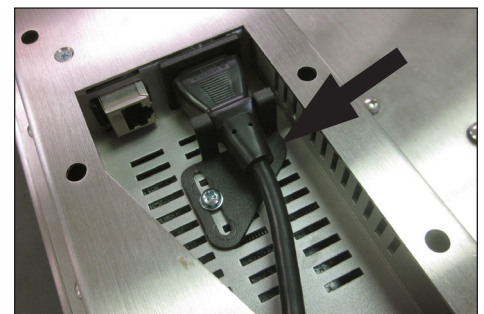

FIGURE 3
6.  Loosen the power cable retaining clip in the well on the KVM Remote Module. Connect a power cable to the module's power connector then retighten the retaining clip as shown in Figure 3.